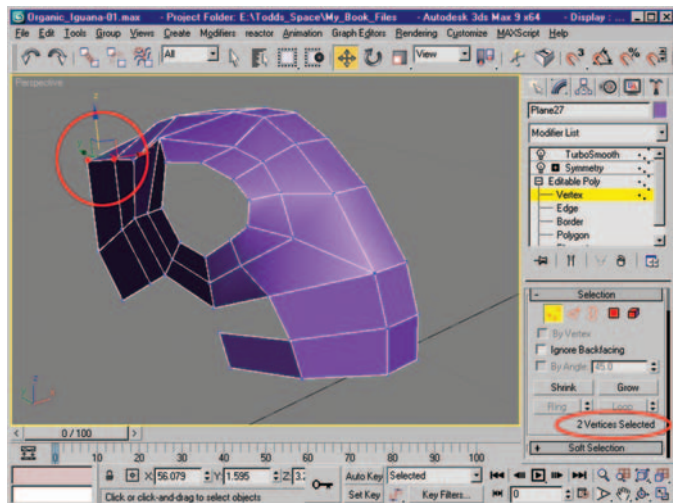

Figure 9.18 Four-vertex selection welded, resulting in two vertices.
18. Use Weld on the four vertices created in the second shift-drag of the last step. Figure 9.18 shows the verts after using Weld highlighted. *Note: In general you may need to use the Weld settings to access the Weld Threshold value. Depending on the scale of the model and proximity of the vertices, adjustments may need to be made. Also be careful that you don't inadvertently weld unintended vertices by giving the threshold too high of a value.*